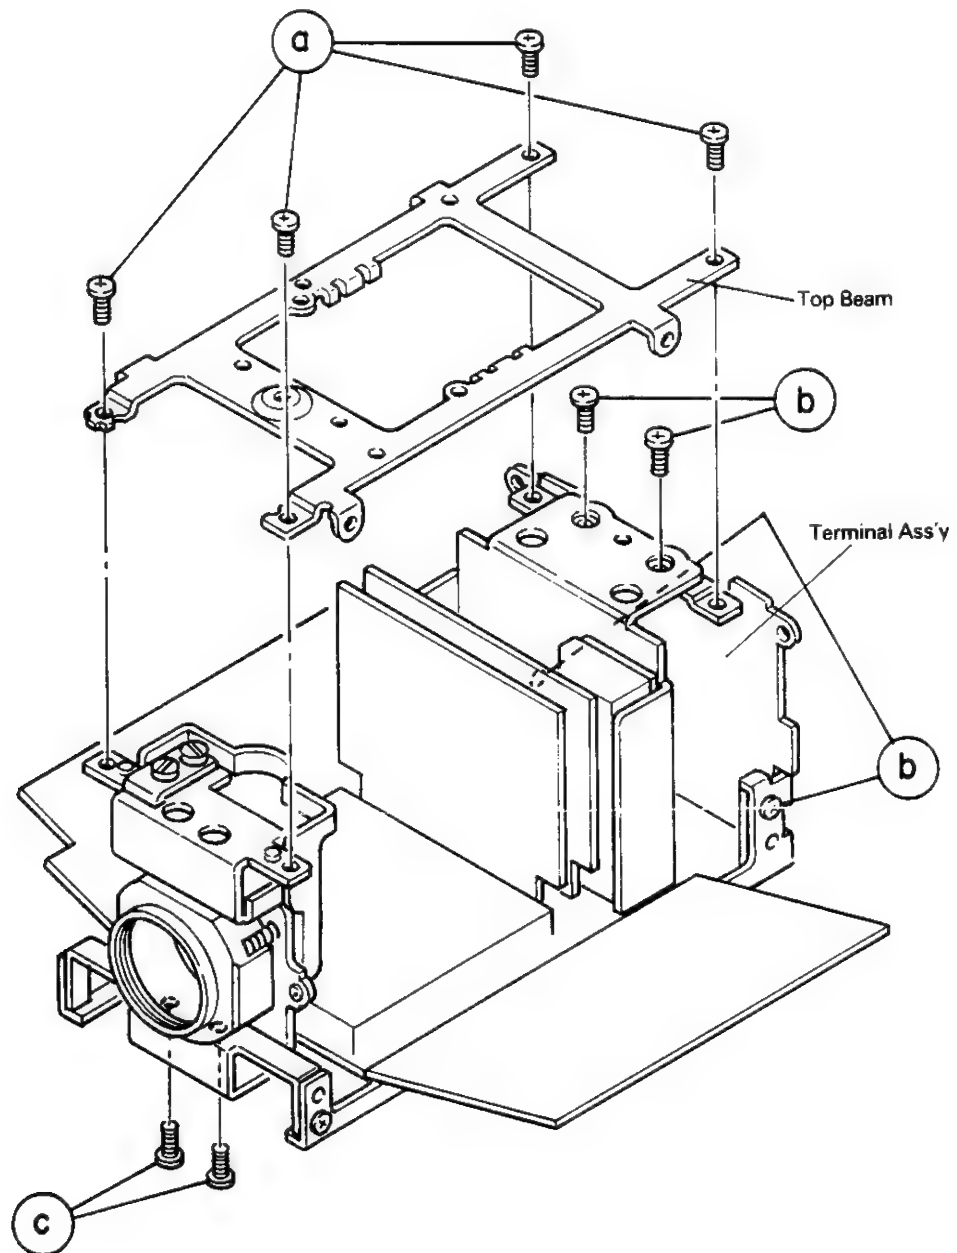

Fig. 2
Remove the four screws (a) shown in Fig. 2.
Remove the four screws (b) shown in Fig. 2.
- (1) Remove the two screws (c) shown in Fig. 2.
- (2) Disconnect four connectors and the grounding lead from the imager PC board. Now the CCD imager and imager PC board can be removed completely.